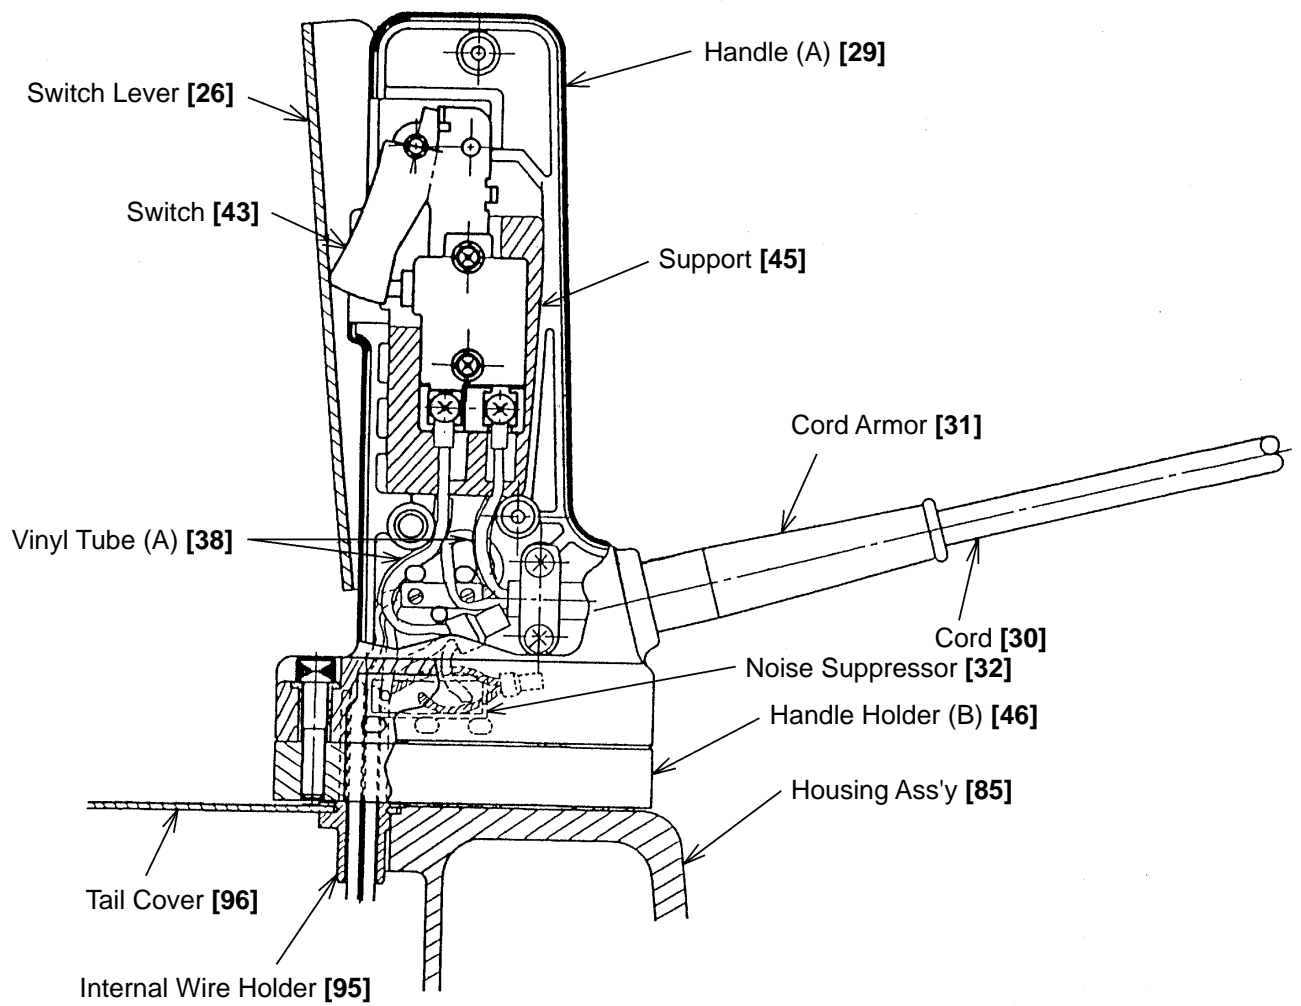

Fig. 22
- Safety precautions in wiring work (See Fig. 22.)